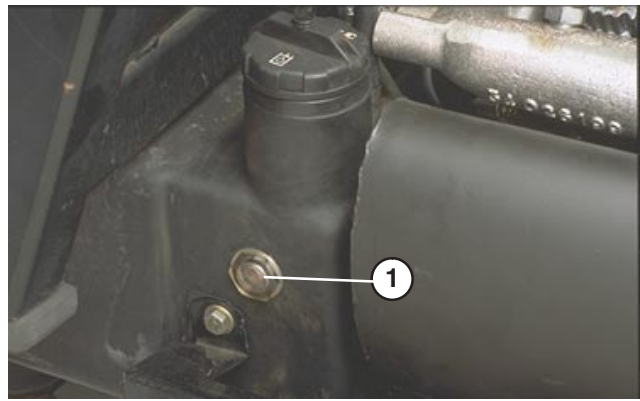

Figure 36
5. With wing decks raised, center deck down and oil warm, look into sight gauge (Fig. 36). If hydraulic oil is not visible, add enough oil to raise level to middle (maximum) of sight gauge. To prevent over filling, do not fill if oil is cold. **DO NOT OVER FILL.**